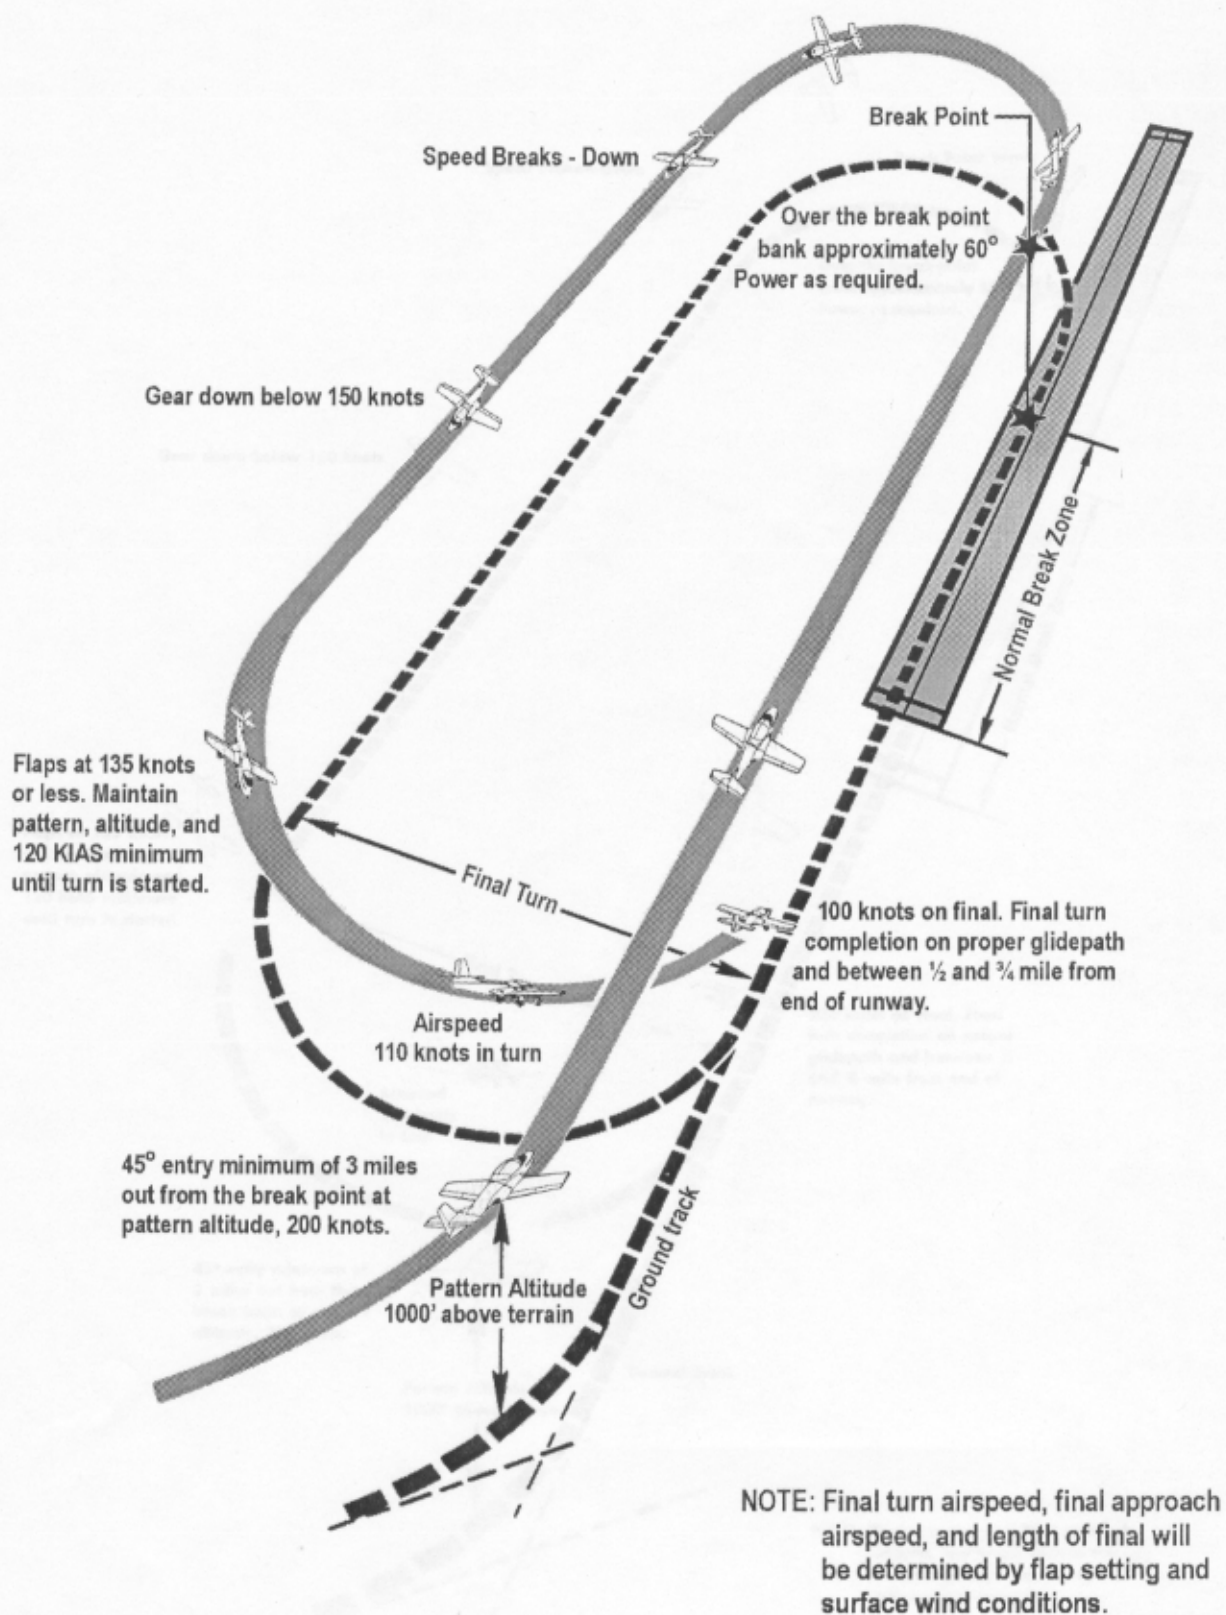

Figure 6.1. Normal Traffic Pattern.
6.3. Standard Overhead Pattern. The 360° standard overhead pattern is used to safely and properly handle a maximum number of aircraft with minimum congestion (figure 6.1). The pattern should be adjusted for existing wind conditions.